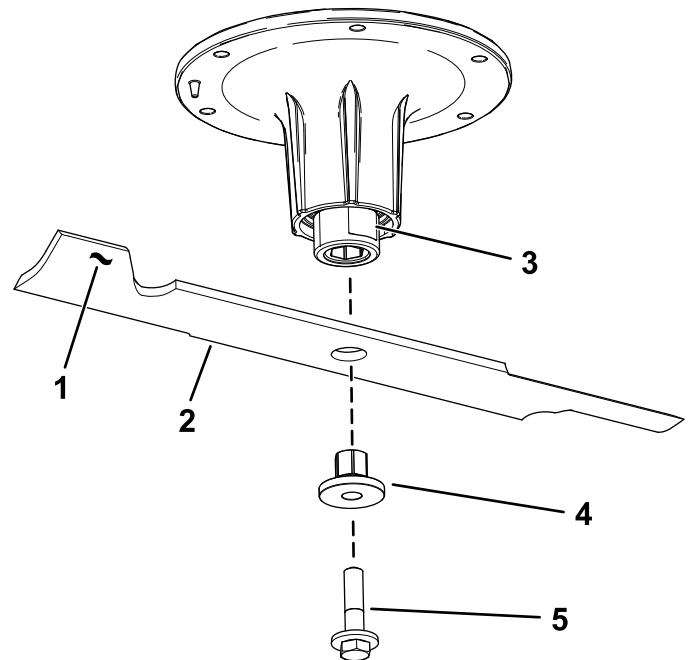

Figure 73
2. Remove the blade bolt, bushing, and blade from the spindle shaft (Figure 73).